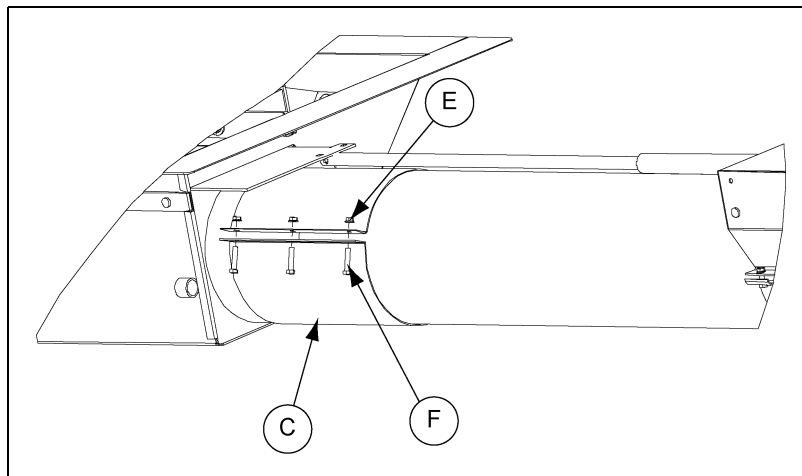

Figure 4H
6. Slide the connecting band (C) until it is equally positioned over both the unload tube and the centerwell tube. Position the connecting band (C) so that it will not interfere with the control rods.
7. Secure the connecting band (C) with three (3) 5/16" x 1-1/2" hex bolts (F) and serrated flange nuts (E), making sure the intermediate wells are level with the centerwell. *(See Figure 4H.)*